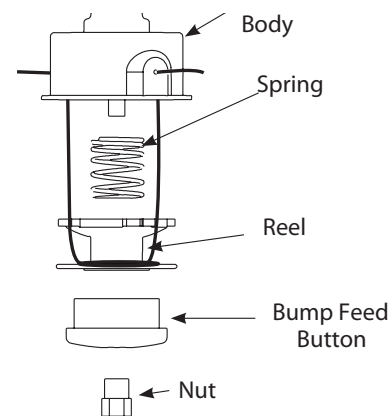

Fig.28
1. Review figure 28 for names of parts referred to in these instructions.
9. Feed the free ends of lines through holes in body while inserting reel back into body. Hold reel in place against spring pressure (Fig. 28).